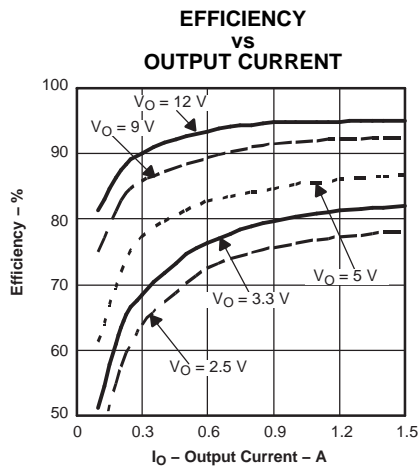
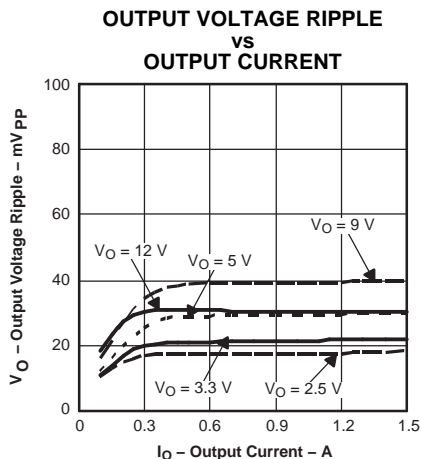
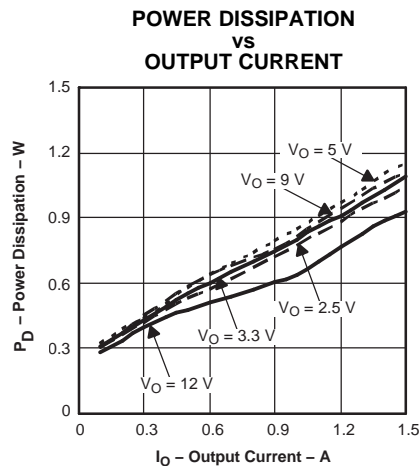

Figure 5.
Figure 6.
Figure 7.
- (1) The electrical characteristic data has been developed from actual products tested at 25° C. This data is considered typical for the converter. Applies to Figure 5, Figure 6, and Figure 7.